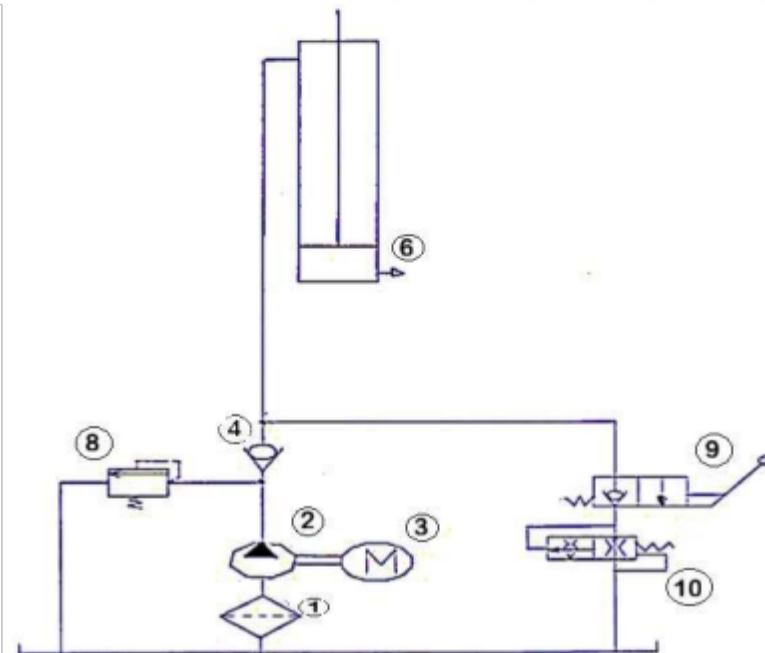

Figure 5
- . As shown in above figure 5, when the start button is pressed, the pump motor is started, driving the oil pump, sucking the hydraulic oil from the oil tank into the Master cylinder (2), forcing the piston rod to move. At this time, the safety valve is closed.**